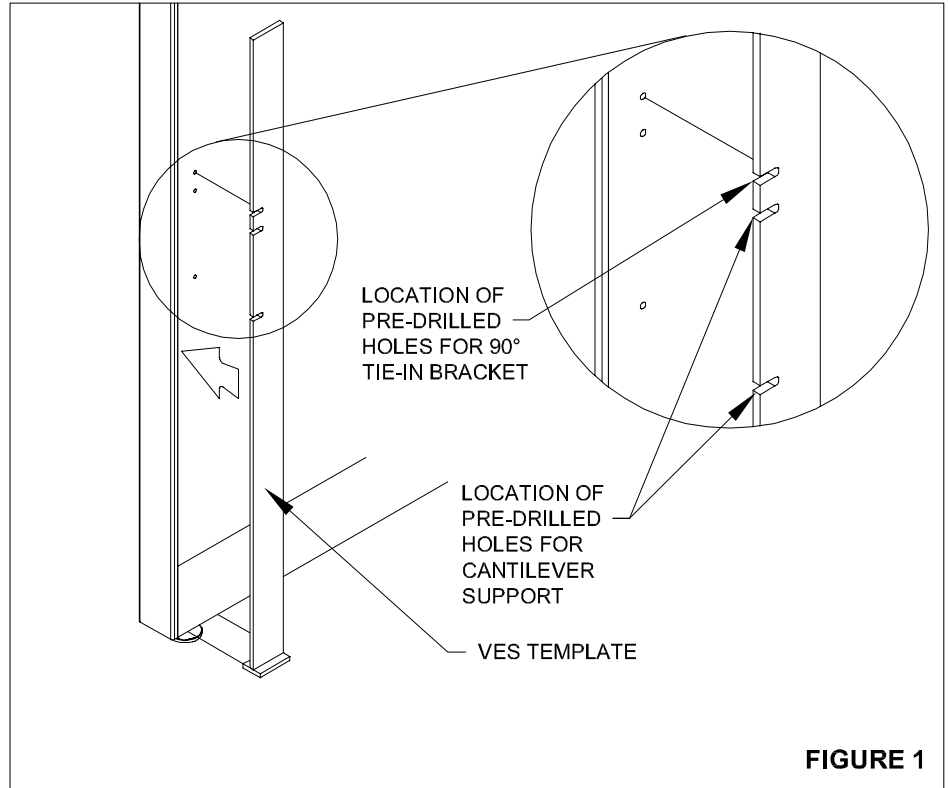

FIGURE 1
1. Hang & position the metal shelf or flipper cabinet on top of the panel, (Figure 1).
1. Align the ves template to the edge of the panel and raceway; locate the pre-drilled holes underneath the fabric, (Figure 1; see panel elevation for the 90° tie-in bracket location).